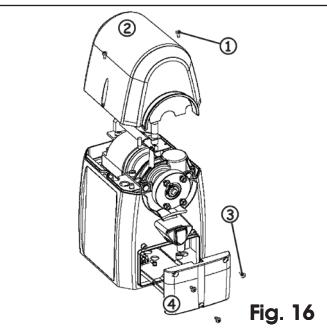

Fig. 16
1. Unscrew the securing screws of the upper housing (Fig. 16 ref. ②) and remove the housing (Fig. 16 ref. ②)
2. Unscrew the three screws (Fig. 16 ref. ③) securing the board cover (Fig. 16 ref. ④)